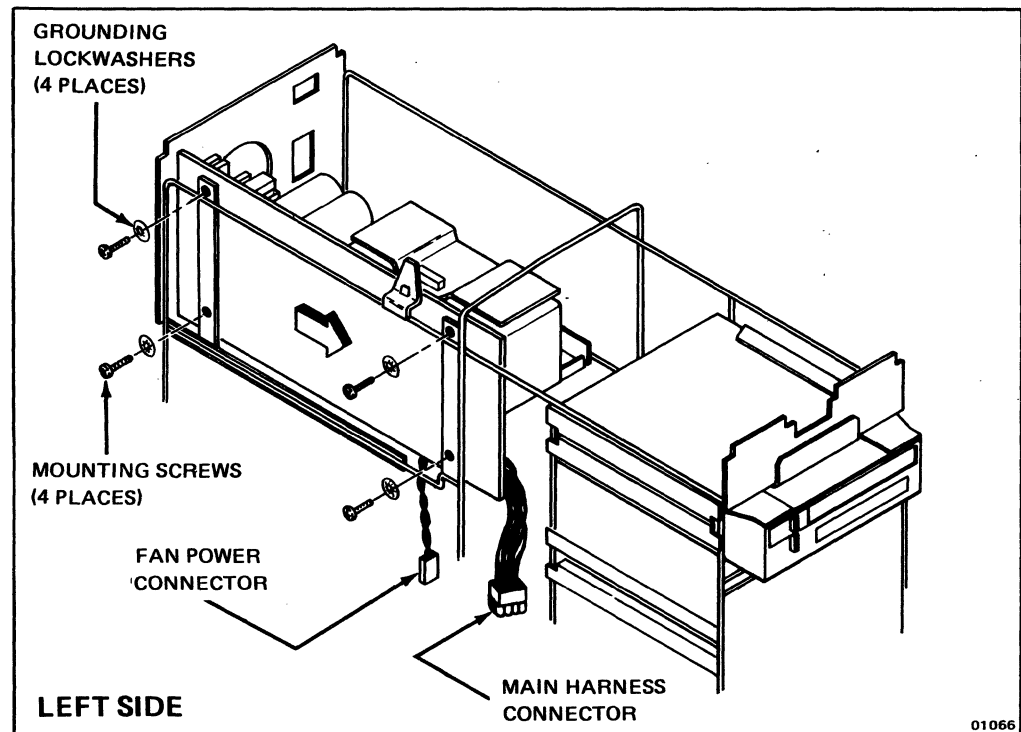

Figure 6-10. Removing/Replacing the Main Power Supply
Perform the following procedure to remove/replace the main power supply (see Figure 6-10):
5. Use a #2 Phillips screwdriver to remove the four screws securing the main power supply board to the chassis as shown in Figure 6-10. (The power on/off switch, line-voltage receptacle, and fuse holder are removed with the power supply.)